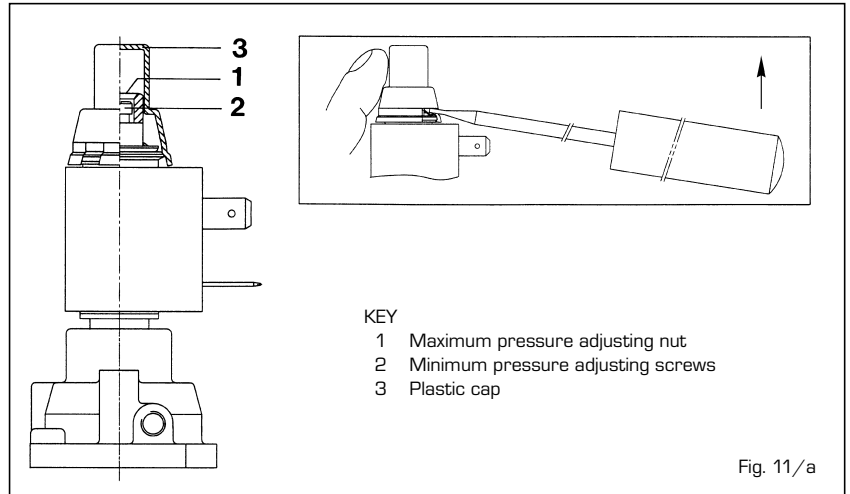

Fig. 11/a
4.2.1 Nominal pressure adjustment (fig. 11)
4.2.2 Reduced pressure adjustment (fig. 11)
4.3.1 Nominal pressure adjustment (fig. 11/a)
4.3.2 Reduced pressure adjustment (fig. 11/a)